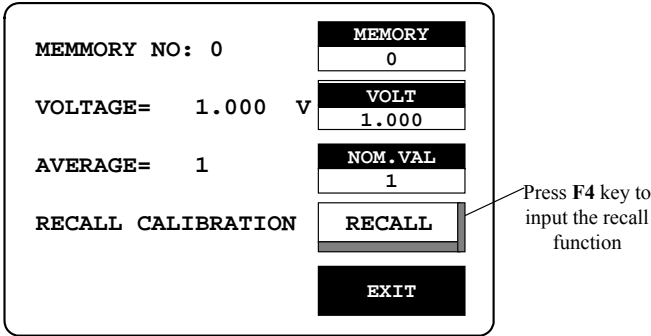

Figure 7-3
- Press **F4** key to select “RECALL CALIBRATION” function. (Figure 7-3)